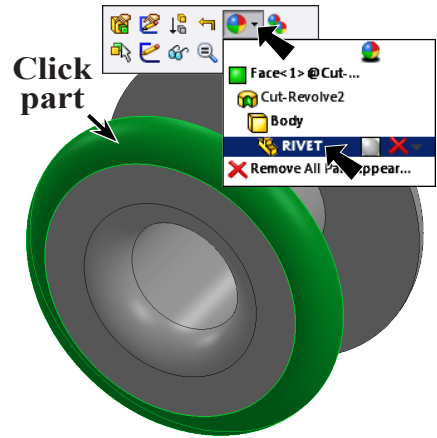

Fig. 18
Step 1. Click part to select, click **Appearance Callout**  on the Context toolbar and click **RIVET** , Fig. 18.